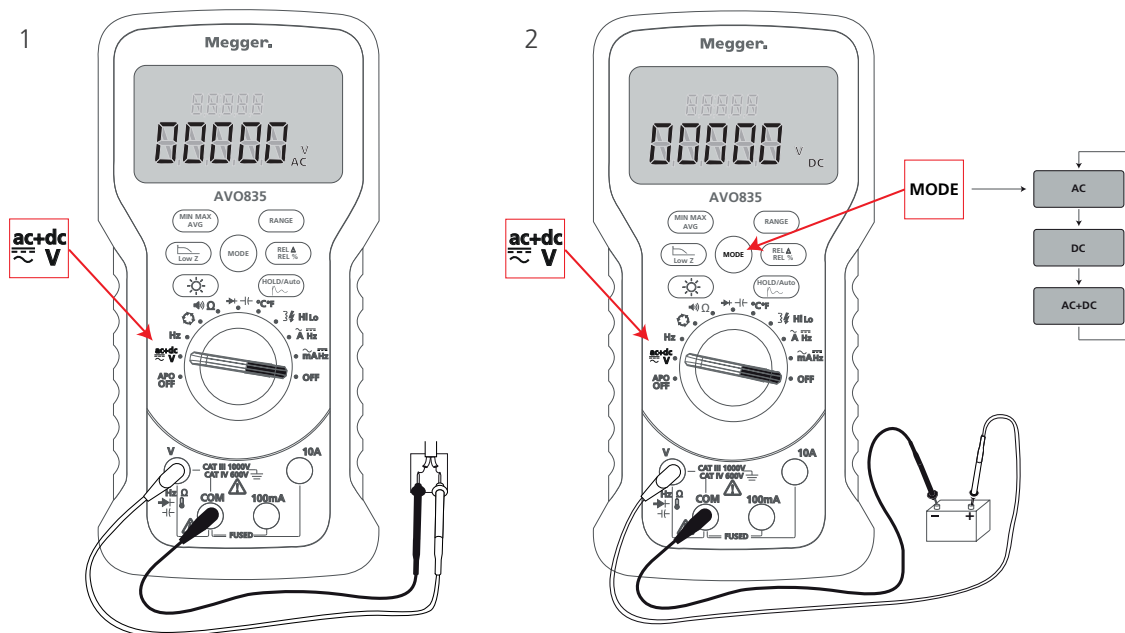

Fig 1: Voltage Measurement Set-up
1. Set-up the instrument as shown in Fig 1.